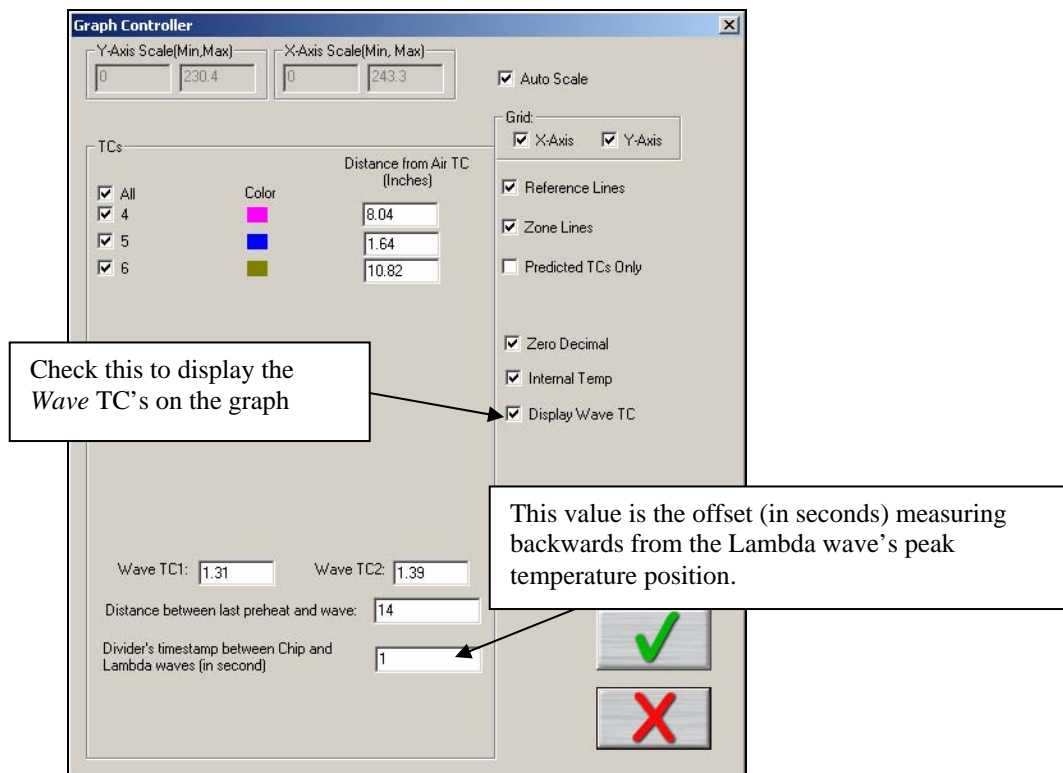

Figure 114: Graph Controller – Wave-On
3. Select the *Display Wave TC's* check box. See Figure 114.
4. Select the Green-Check button to save the changes made and return to the Profile Graph display. See Figure 114.